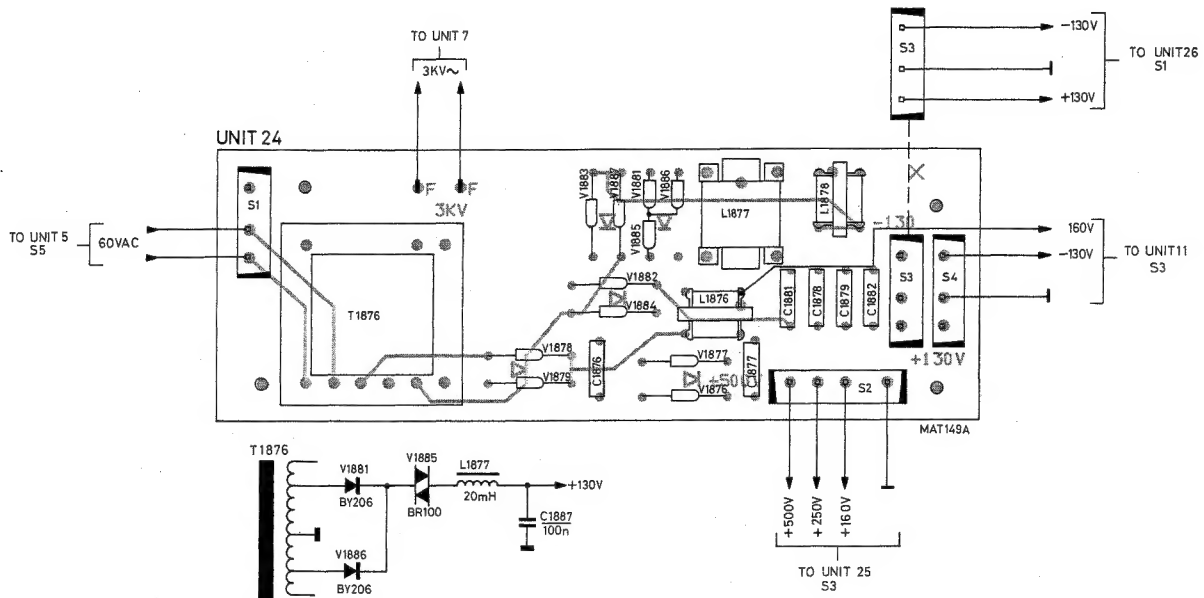

Fig. 7 P.c.b. lay-out of additional power supply (unit 24)
- Connect a diac V1885 (BR100) between V1881/V1886/cathode and L1877. The diac is a device that becomes conductive if the voltage across it is higher than 32 Volt. This solution is used in the instruments of the /03 series and it is indicated in fig. 7.